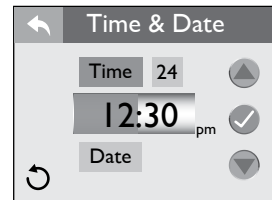

Figure 12.9c
1. When you enter the menu, **Time** will be highlighted Orange, Figure 12.9c.